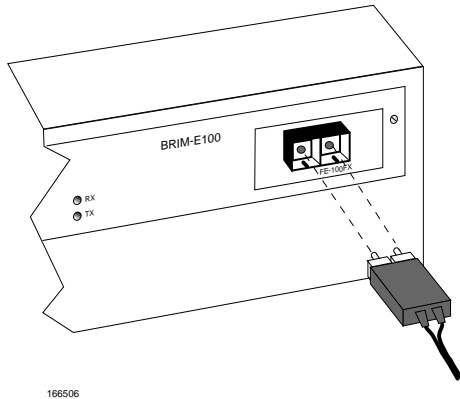

Figure 4-2 FE-100FX Port
The FE-100FX has an SC style network port (see Figure 4-2). Cabletron Systems supplies fiber optic cable that uses keyed SC style connectors to insure proper crossover of the transmit and receive fibers.
2. Insert one end of the SC connector into the FE-100FX installed in the BRIM-E100. See Figure 4-2.